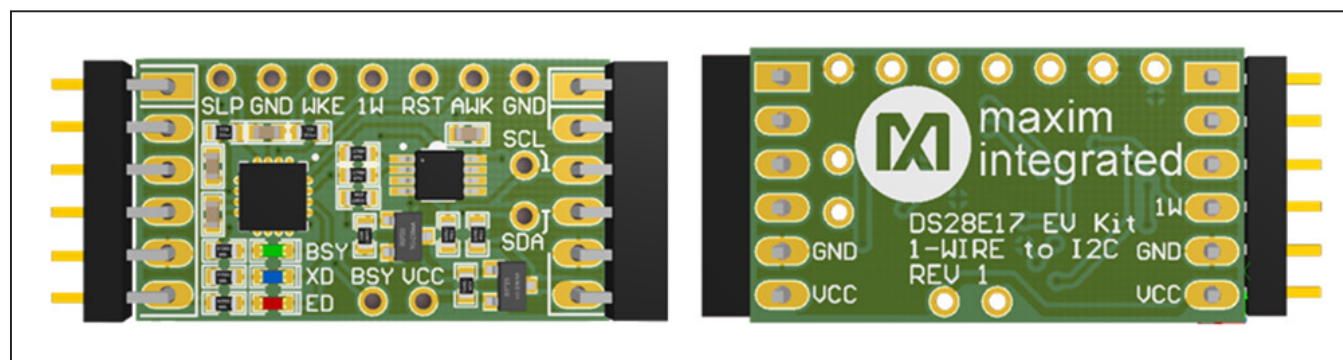

Figure 1. DS28E17 EV Kit Board
- DS28E17 EV Kit Board (Figure 1)
The WAKEUP pin (shown as WKE) is located at the top of the EV kit board (Figure 1).